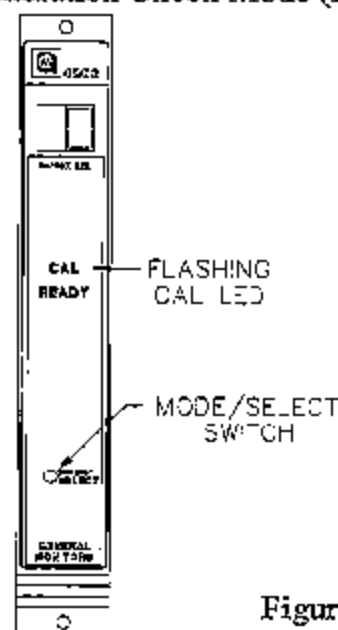

Figure 14
- Enter the Calibration Check mode by pressing and holding the Mode/Select switch until the **CAL** LED begins to flash (about ten seconds). When the **CAL** LED begins to flash, release the Mode/Select switch. The unit is now in the Calibration Check Mode (figure 14).